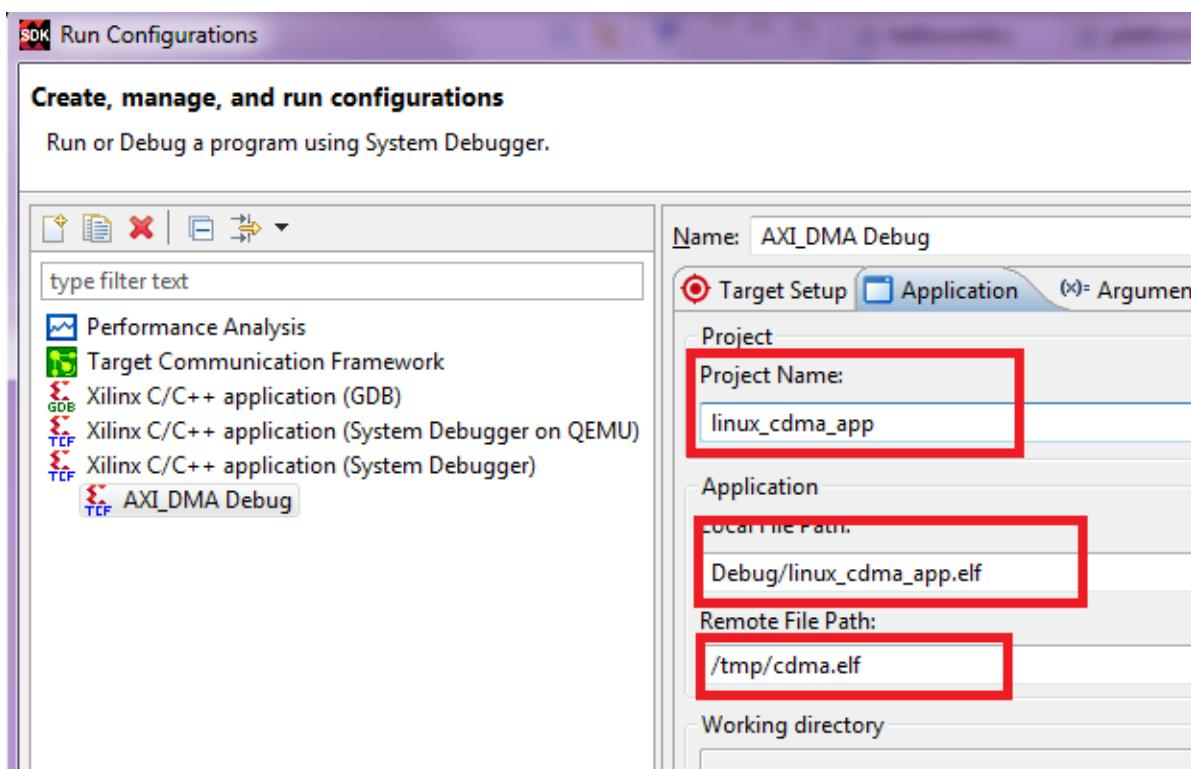

Figure 5-12: Debug Configuration Settings in the Application Tab
13. As shown in Figure 5-12: from the **Application** tab, enter application data settings for: